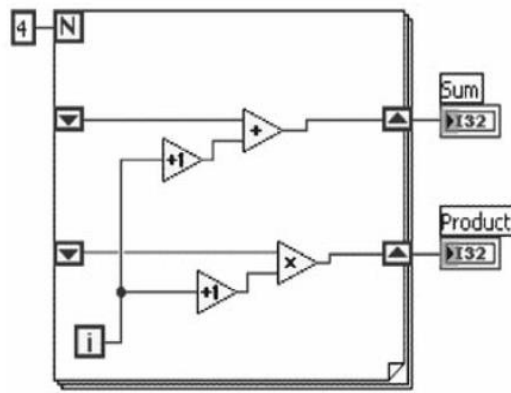

Figure 4.12 Multiple shift registers.
- You can add more than one shift register to a loop. If you have multiple operations that use previous iteration values within our loop, you can use multiple shift registers to store the data values from those different processes in the structure as shown in Figure 4.12.